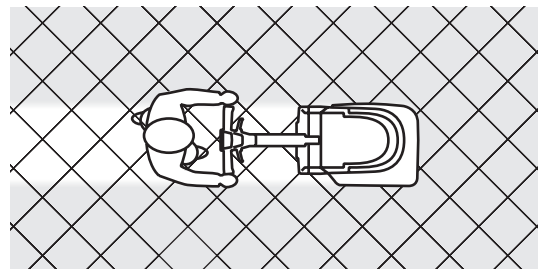

Figure 4
*If applicable, to better dry the grout lines between the tiles, move in a diagonal direction with respect to the floor layout, as shown in figure 4.*